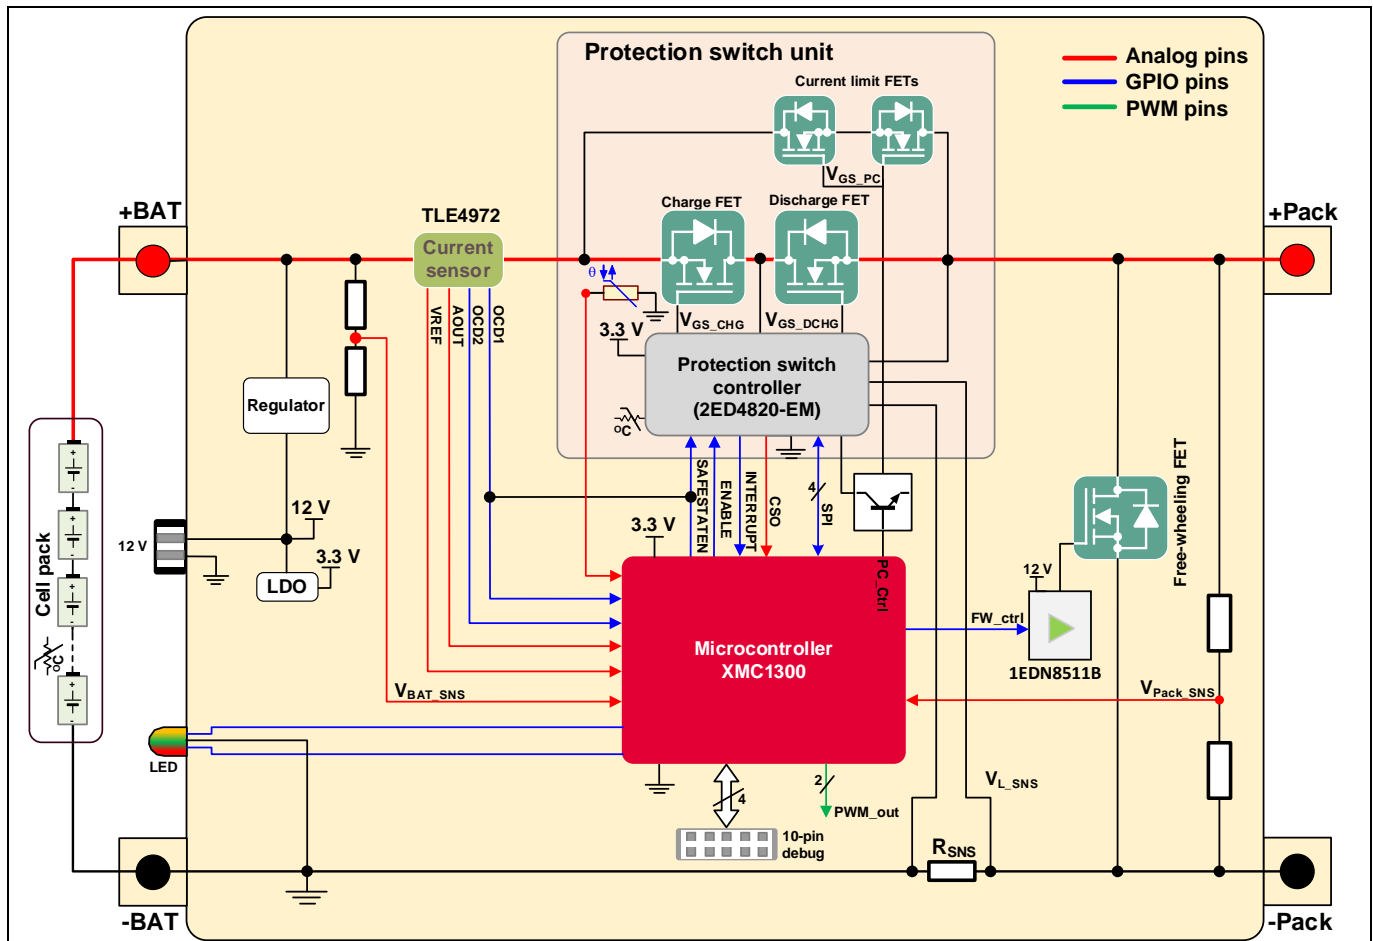

Figure 2 Block diagram of the eDisconnect power switch (REF_60100EDPS)
Figure 2 shows a high-level schematic architecture of REF_60100EDPS which includes a protection switch unit, a current sensor, a microcontroller, a freewheeling MOSFET, a precharge drive circuit, an auxiliary supply, and voltage-sensing subsections. The block diagram provides a functional overview and illustrates how different subsections of the system interface based on the type of signal.
Protection can be implemented by connecting MOSFETs either on the positive rail or on the negative rail of the source (e.g., a battery). As shown in Figure 2, REF_60100EDPS is designed to implement protection on the high-side (HS) using bidirectional protection switches in common-drain configuration in the high-level block diagram of eDisconnect power switch reference board. Also, it shows MOSFETs connected in common-source configuration driven by a discrete circuit to precharge the load capacitance without a bulk-current-limiting resistor. The freewheeling MOSFET and its drive circuit across the pack terminals protects the reference board from short circuits. The current sensor in the positive rail is used to measure the battery current with integrated magnetic coreless hall technology and provides an analog signal proportional to the measured current. It also offers fast protection against overcurrents or short circuits with its dedicated digital outputs.